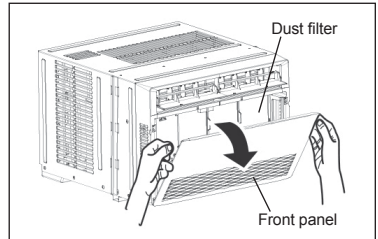

FIGURE 21
1. To open the front panel, pull on the notches on both sides of the panel, as shown in *Figure 21*.